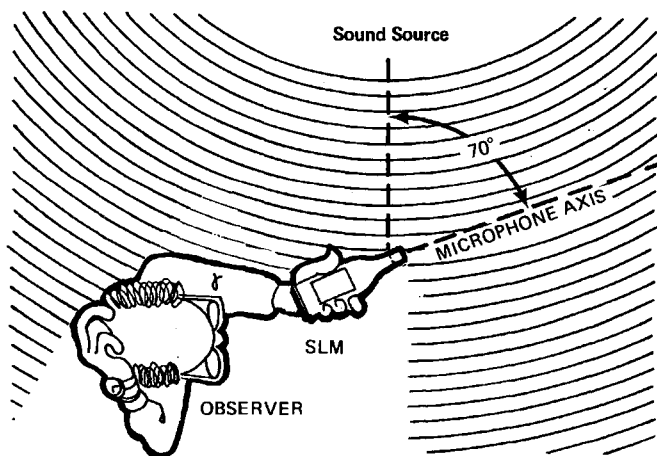

Figure 2-3. Orientation of hand-held sound-level meter with "random" microphone for best results and preferred position of observer.
2.3.3 Position, Using Random Response Microphone. Figure 2-3.